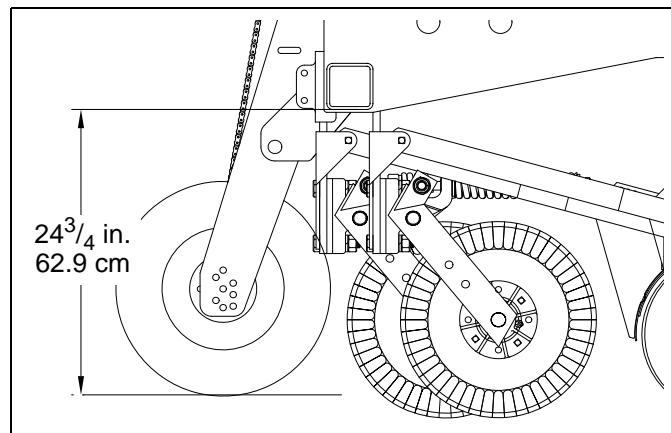
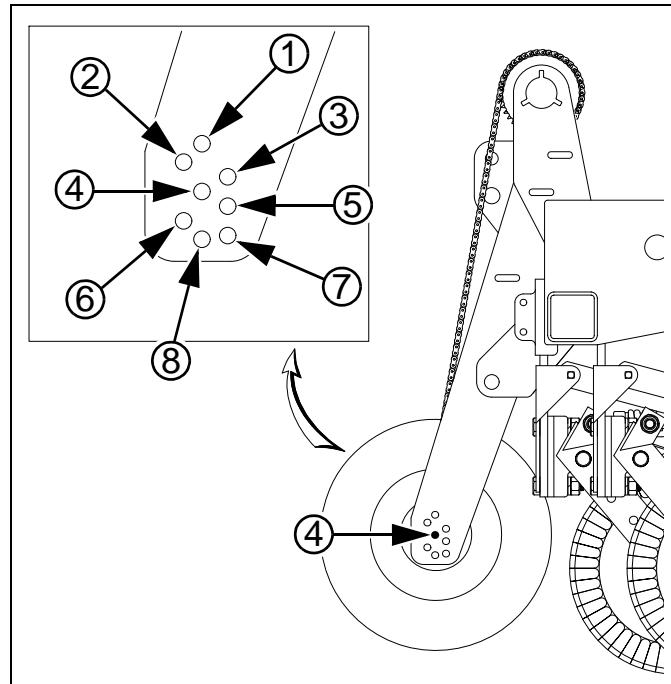

Figure 9
Figure 10
*Refer to Figure 9 and Figure 10*
*Refer to Figure 10*